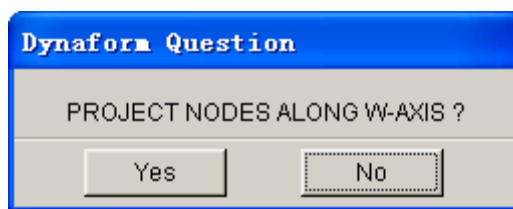

Figure 5.4.3 Project Node Question dialog box
- A eta/DYNAFORM Question dialog box as illustrated in Figure 5.4.3 is displayed.